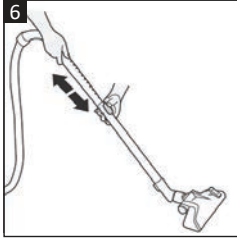

Fig. 6
- Slide the Telescopic tube release button (21) in the direction of the arrow marked on the button and hold it while you adjust the telescopic tube to the desired length (**Fig. 6**).